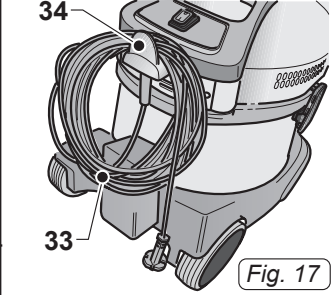

Fig. 17
- Wind up the cable (33 Fig.17) and hook it onto its housing (34 Fig.17).